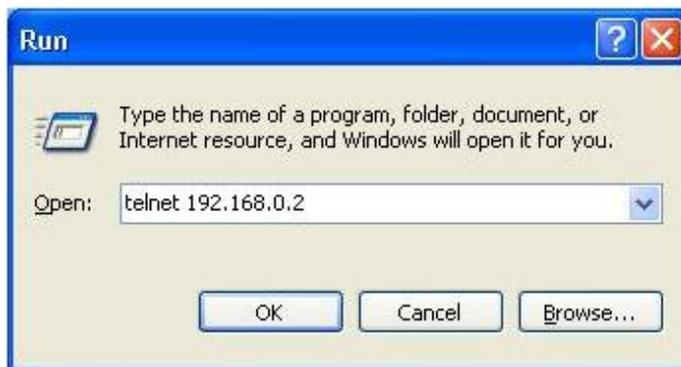

Figure 22 Access through Telnet
2. Input "*IP address*" in the browser address bar (Default ip: 192.168.1.2). After opening the login dialog box, enter the default user name (admin) and default password (123) to successfully log in to the device Web management page.
Step 2: Enter "telnet IP-address" in the Run dialog box, as shown in Figure 22. The default IP address of a Kyland switch is 192.168.0.2.